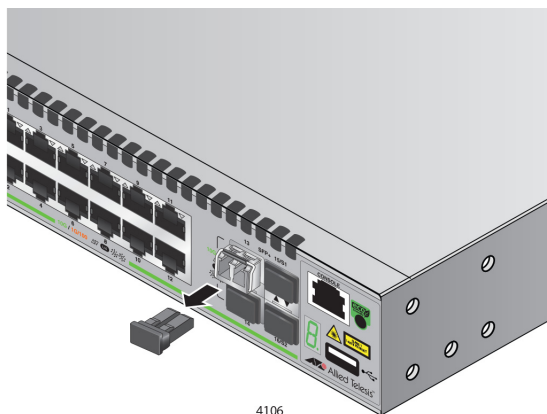

Figure 23. Removing the Dust Cover from an SFP Transceiver
- Remove the dust cover from the transceiver, as shown in Figure 23.